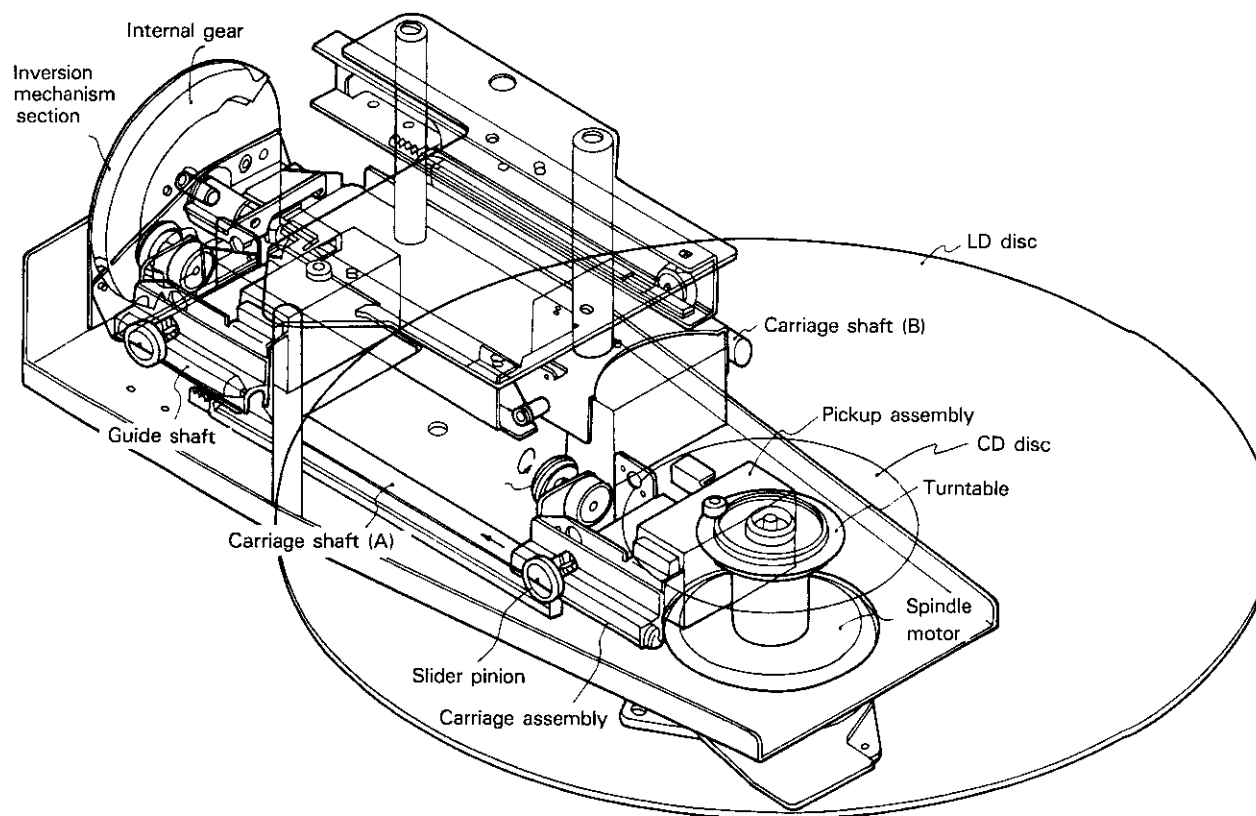

Fig. 11-1-2 Overall diagram of the “Alpha-Turn” both-sides playback mechanism
Fig. 11-1-2 is a diagram showing the outline of the “α-turn” system both-sides playback mechanism. In this system, since the two carriage shafts (A) and (B) are securely fixed along the upper and lower surfaces of the disc, while the guide shaft in the inversion mechanism is located on the same axis with respect to each carriage shaft (A) and (B) when playing both sides A and B, the transition of the carriage assembly can be performed smoothly.